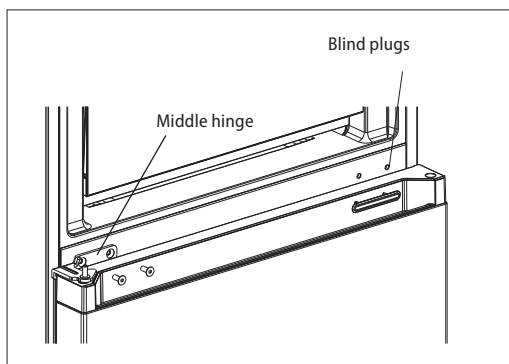

Fig. 6
12. Place the freezer door on the bottom hinge of the freezer and install the middle hinge of the refrigerator (Fig. 6).